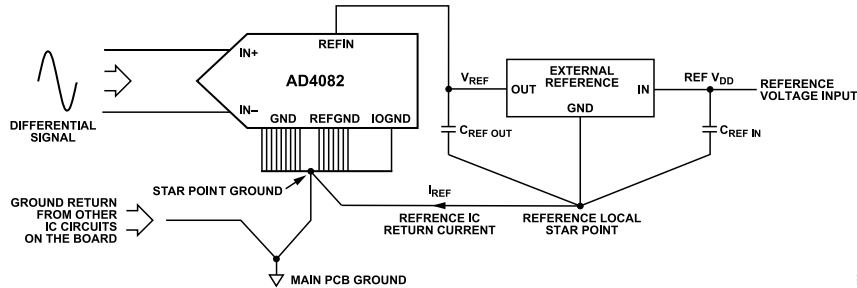

Figure 107. AD4082 External Reference Ground Connections
- ▶ Recommended connections of ground (GND), reference ground (REFGND), and digital ground (IOGND) connections are shown in Figure 107. It is recommended to not keep the current return path of the reference IC in the same current loop as the current return loop from the other circuitry on the PCB. Connect the reference local star point to the ADC star point ground on the top layer of the PCB as shown in Figure 107.